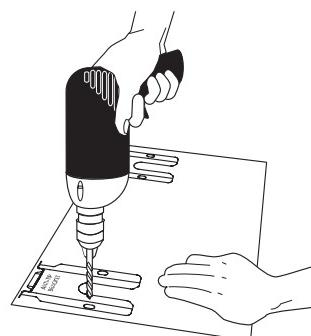

Fig. 23
- Drill Pilot Holes & Fasten Bracket** - Drill 1/8" pilot hole where screws are to be located (Fig. 23). If bracket is to be mounted to the wall, drill pilot hole at an approximate 20° downward angle. If bracket is to be mounted to masonry or ceramic floors, drill 3/16" pilot hole 1-3/4" deep. The screws provided may be used in wood or concrete material. Use 5/16" nut-driver or flat head screwdriver to secure the bracket in place.